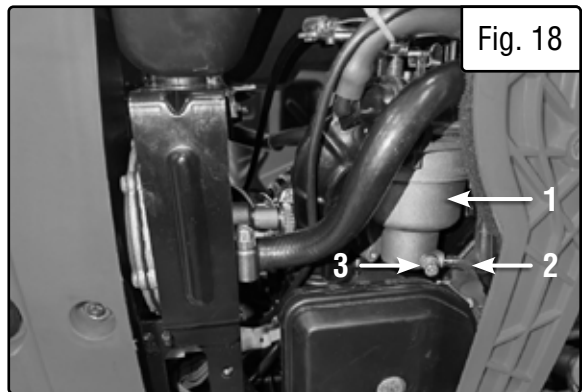

Fig. 18
3. The carburetor (Fig. 18 - 1) can be accessed from the backside of the generator between the engine and the air filter. Locate the transparent tube (Fig. 18 - 2) from the carburetor that extends down through the bottom of the generator.
5. Open up the carburetor drain screw (Fig. 18 - 3) with a flat-head screwdriver (not included) and drain out any gasoline that has built up inside the carburetor through the drain tube into the approved gasoline-storage container.
2. Locate the carburetor (Fig. 18 - 1) and the transparent drain tube (Fig. 18 - 2) from the carburetor that extends down through the bottom of the generator.